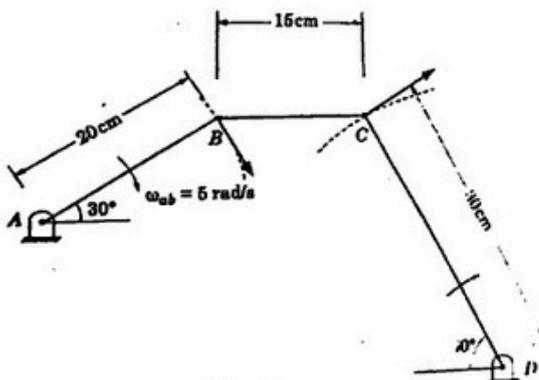

Fig.9
- Q8 In a four bar mechanism ABCD, the bar AB rotates clockwise with an angular velocity of 5 rad/s as shown in Fig.9. Find the angular velocities of the bars BC and CD when the bar AB makes an angle of 30° with the horizontal, bar CD makes an angle of 60° and the bar BC is horizontal. (10)